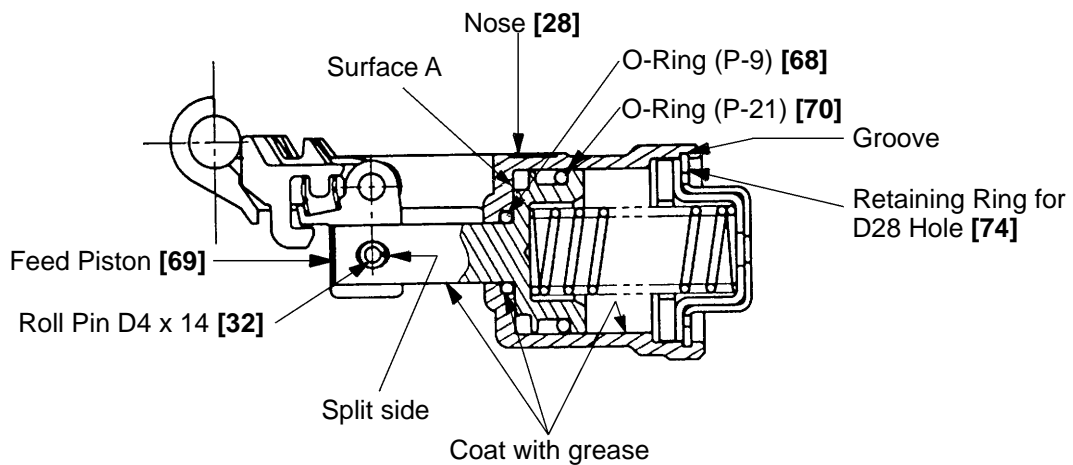

Fig. 13
- Move the O-Ring (P-21) **[70]** on the Feed Piston **[69]** to the right as indicated in Fig. 13, and fill the groove with grease. Note, however, that too much grease on the surface A in Fig. 13 makes the motion of the Feed Piston **[69]** sluggish (particularly in a lower air pressure).
- Push in the Roll Pin D4 x 14 [32] with its split end facing the Magazine [86] as indicated in Fig. 13.